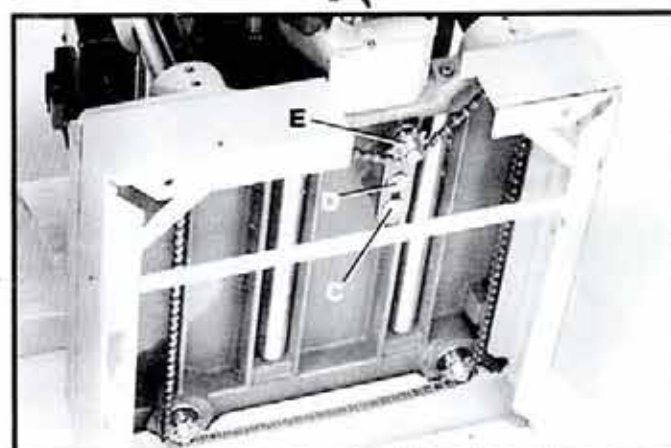
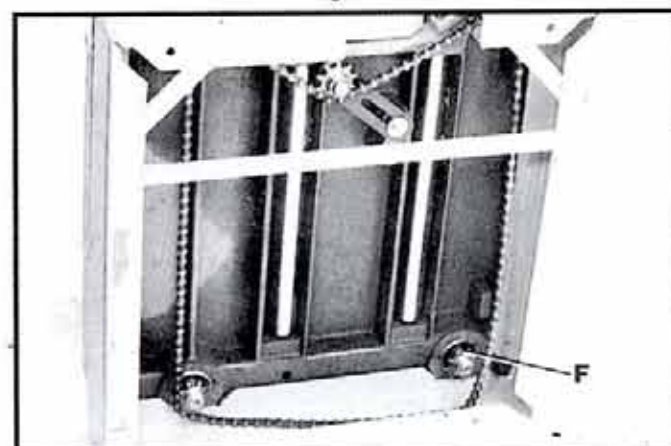

Fig. 47
Fig. 48
5. If head casting is not parallel to table, tilt planer on its side as shown in Fig. 47. Remove bolt (C) and loosen bolt (D) Fig. 47, which will allow you to move the idler sprocket assembly (E) far enough to release tension on chain as shown in Fig. 48. Remove chain from sprocket on end of headcasting that must be adjusted. In this case chain has been removed from sprocket (F).
6. Turn sprocket (F) Fig. 48, by hand to bring that corner into adjustment with the other three corners. **IMPORTANT: THIS ADJUSTMENT IS VERY SENSITIVE AND IT SHOULD NOT BE NECESSARY TO TURN THE SPROCKET MORE THAN ONE OR TWO TEETH.** Turning sprocket (F) clockwise will decrease the distance between the table and headcasting. Counterclockwise will increase the distance.
7. Replace chain being careful not to disturb the position of the sprockets and replace idler sprocket assembly (E) Fig. 47.